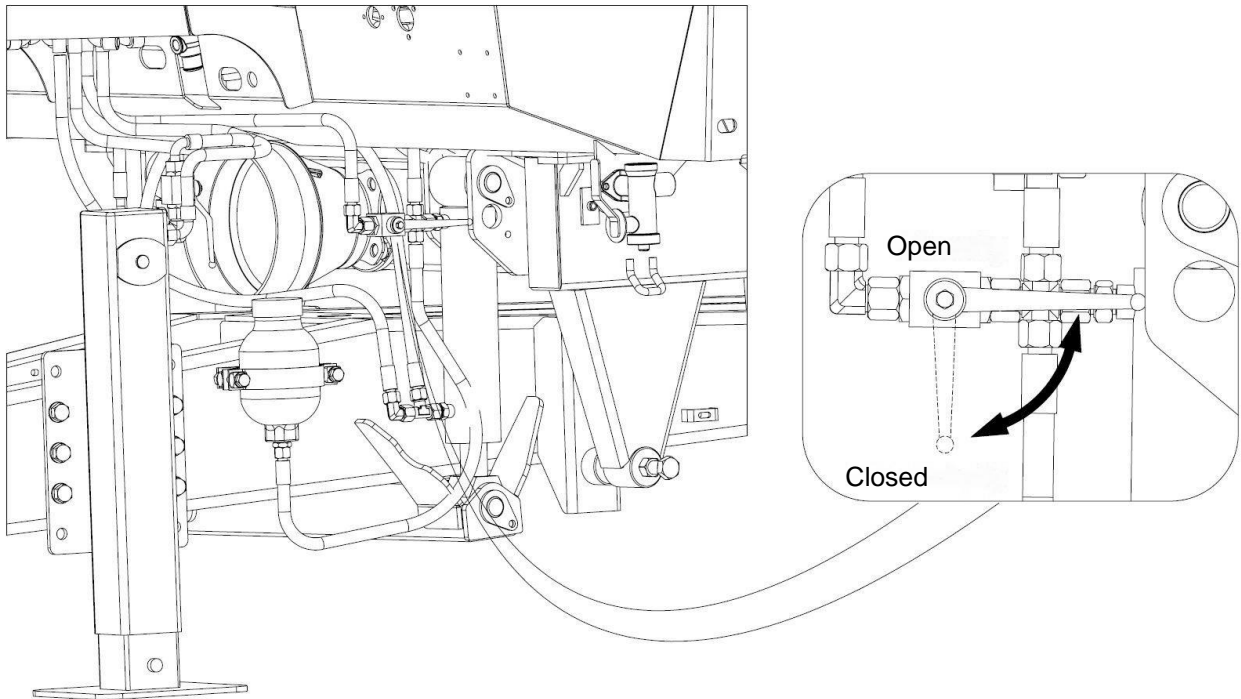

Figure 17. Hydraulic valve for controlling (shutting off) the drawbar shock absorber
The pre-assembled Spreader is designed to be coupled only with the lower hitch of the tractor. The hitch (2) features the function of changing the height of the drawbar eye (1) in relation to the ground - see Figure 17. This is done by hydraulic cylinders (3), which also act as drawbar shock absorbers. Additional adjustment range can be achieved by changing the position of the actuator from mounting hole (A) to (B). To adjust the drawbar eye to the correct height in relation to the ground and the tractor hitch, extend or retract the hydraulic cylinders (3) via the tractor's external hydraulics. The drawbar is set at the right height by levelling the Spreader, which ensures an even distribution of the Spreader's weight on the axles. After coupling the spreader, make sure that it is properly levelled, both with and without load. Also check that the piston rods of the drawbar suspension cylinders can operate at a minimum distance of 30-50 mm. Maintaining this distance ensures the proper function of the drawbar shock absorber. If the piston rods are retracted as far as possible (drawbar eye in the topmost
position), the drawbar suspension will not work – this is not permissible. The hydraulic valve (Figure 17) at the right-hand drawbar shock-absorber cylinder is used to block the oil supply when connecting and disconnecting the hitch (drawbar shock-absorber) hydraulic lines.